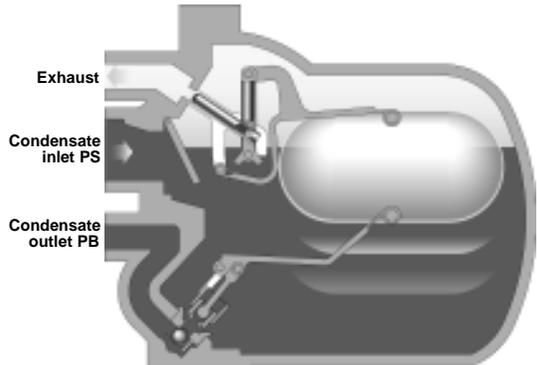

Fig. 7
Step 2 (Fig. 7)
With some temperature controlled equipment, it is possible for the system pressure PS to be lower than the back pressure at PB (Fig. 7). If this occurs a standard trap will stall allowing the condensate to flood the equipment being drained.